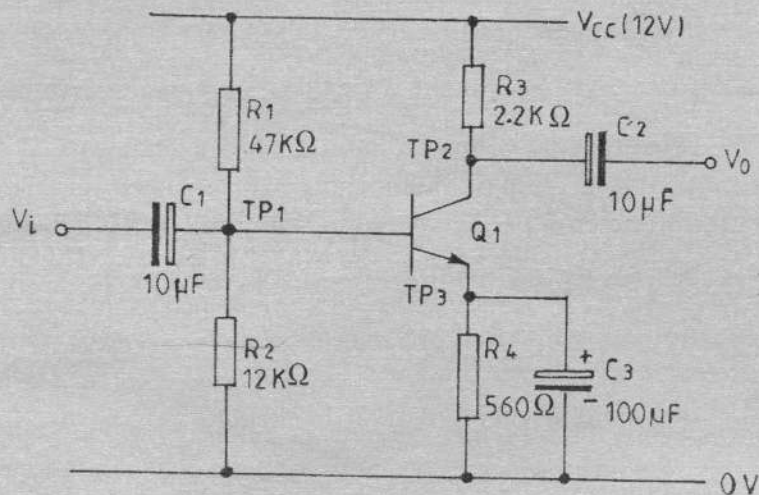

Fig. 2
- (I) factors that may cause premature failure of capacitors;
- (II) precautions to be observed when handling and testing electronic components. (4 marks)
- (b) Figure 2 shows a circuit diagram of an amplifier.
- (I) resistor R_1 open circuit;
- (II) transistor base-emitter junction short circuit.